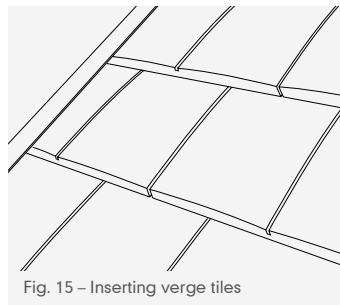

Fig. 15 – Inserting verge tiles
- 7 Lay tiles in the usual manner, ensuring the verge tiles are fully inserted into the verge extrusion and mechanically fixed (Fig. 15).